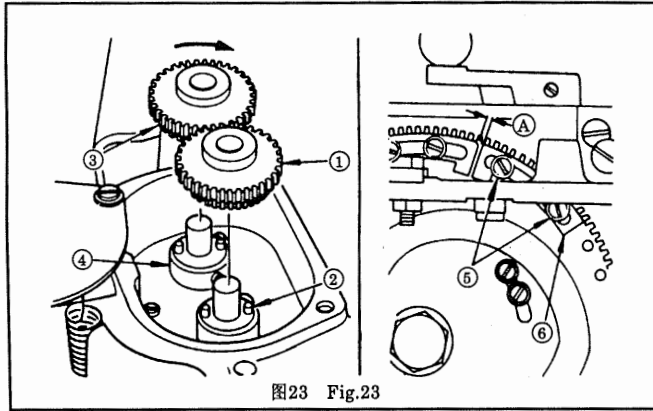

图23 Fig.23
*** 齿轮的安装 图23**
- 1) 先将齿轮①插进蜗轮轴里和靠近操作者一侧的交换齿轮挡圈②上的定位销内。
- 2) 再将齿轮③一边按箭头方向旋转, 一边插进离操作者远的交换齿轮挡圈④上的定位销内和送料凸轮传动轴里。
*** Attaching the spur gears to their shafts** Fig.23
- 1) Push gear ① into the shaft so that it is securely fixed by the pin on gear bushing ② located nearer to an operator.
- 2) For installing gear ③ on the pin of rear gear bushing ④, push gear ③ into the shaft while turning it in the arrow direction.